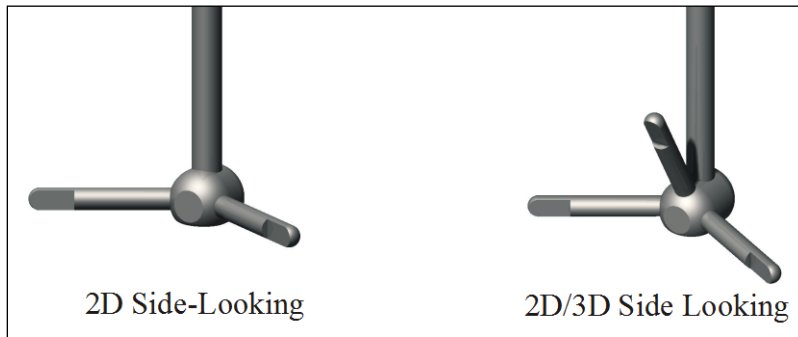

Figure 13:5 - FlowTracker2 Probe Configuration
Several FlowTracker2 probe configurations are available for different applications (see Figure 13:4).
- a) Two probe types are available (see Figure 13:4).